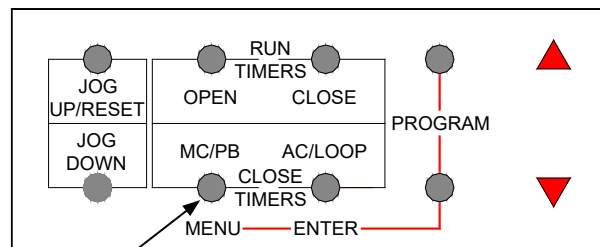

Figure 32: MENU Button
6. Press and release the MENU button twice. Ready displays in the LCD. See Figure 32.